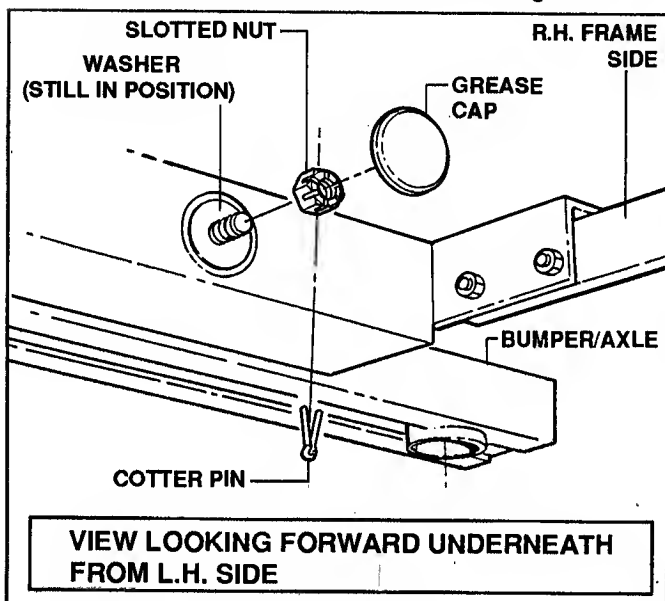

FIGURE 6.2
C. Pry off grease cap then remove cotter pin and slotted nut (These are located behind the front channel weldment. Refer to Figure 6.2.